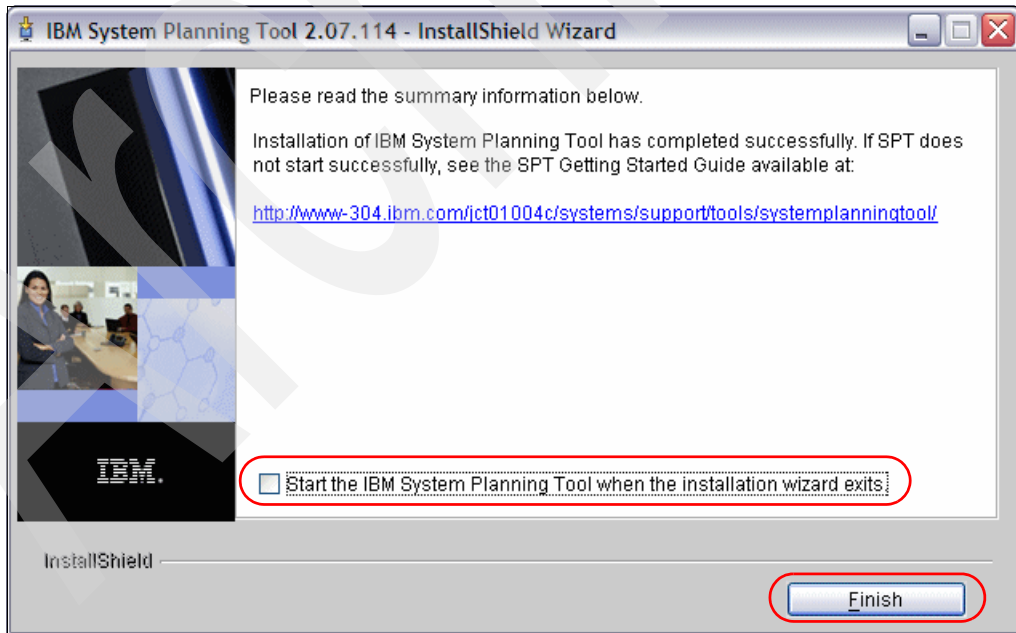

Figure A-18 Installation is finished
10. When the System Planning Tool Version 2 base code has been installed (see Figure A-18), you need to apply the patch. Therefore, uncheck the Start the IBM System box and click **Finish** to end this first step, the install of System Planning Tool Version 2 base code.